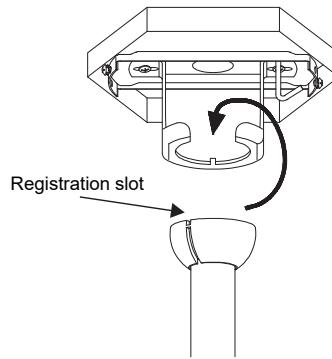

Fig. 7
**Step 7.** Place downrod ball into the hanger bracket socket (**Fig 7**).
Rotate the entire assembly until the "Check Tab" has dropped into the "Registration Slot" and seats firmly. (**Fig. 7**)